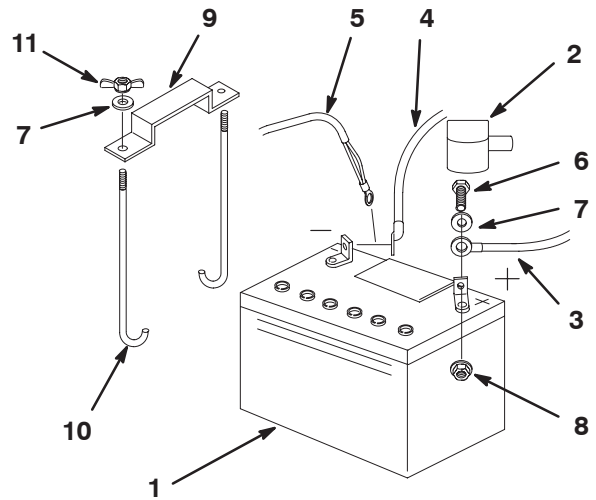

Figure 64
1. Position the battery in the tray with the terminal posts toward the engine (Fig. 64).
4. Secure the cables with 2 bolts (1/4 x 3/4 inch), 2 washers (1/4 inch), and 2 locknuts (1/4 inch) (Fig. 64).
6. Secure the battery with J-bolts, clamp, 2 washers (1/4 inch), and 2 wing nuts (1/4 inch) (Fig. 64).
4. Disconnect the negative battery cable and the ground wire from the negative (-) battery terminal (Fig. 64).
6. Remove the positive (red) battery cable (Fig. 64).
7. Remove both wing nuts (1/4 inch) that secure the battery clamp (Fig. 64).